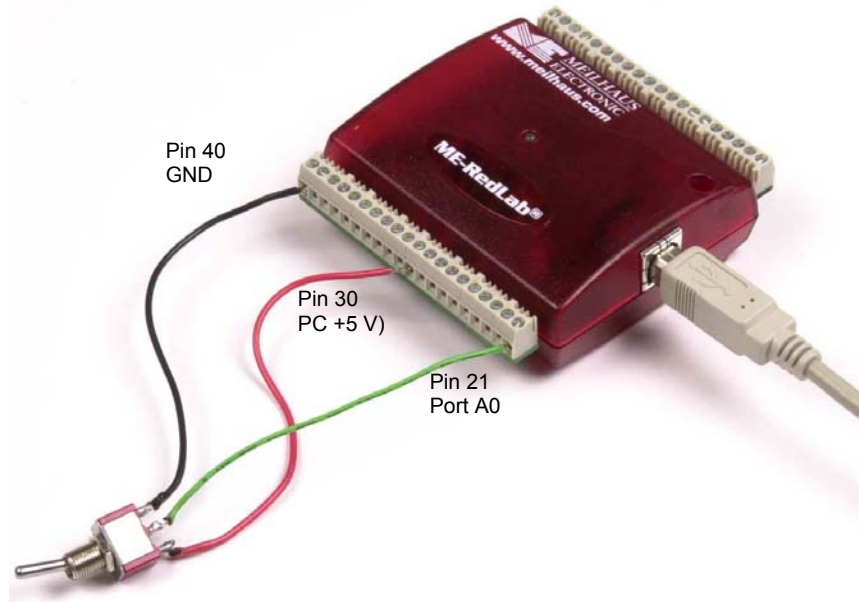
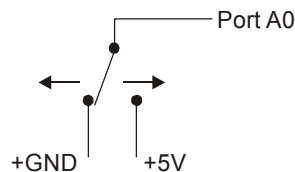

Figure 9. Digital connection Port A0 detecting the state of a switch
Figure 10. Schematic showing switch detection by digital channel Port A0
When you configure the digital bits for input, you can use the digital I/O terminals to detect the state of any TTL level input. Refer to the switch shown in Figure9 and the schematic shown in Figure 10. If the switch is set to the +5 V input, Port A0 reads *TRUE* (1). If you move the switch to GND, Port A0 reads *FALSE*.